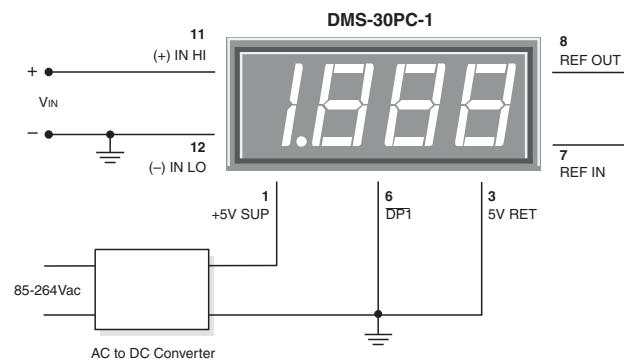

Figure 2. Single-Ended Input Configuration
**1. Single-Ended Input Configurations:** True single-ended measurements can be made with any DMS-30PC meter. The circuit of Figure 2 avoids problems normally associated with ground-loop currents. Separate ground runs should be used for 5V RETURN (pin 3) and  $(-)$  INPUT LO (pin 12). This will ensure that large LED currents will not flow in the wiring that connects  $V_{IN}$  to  $(-)$  INPUT LO (pin 12). Ground-loop currents can cause unstable readings.